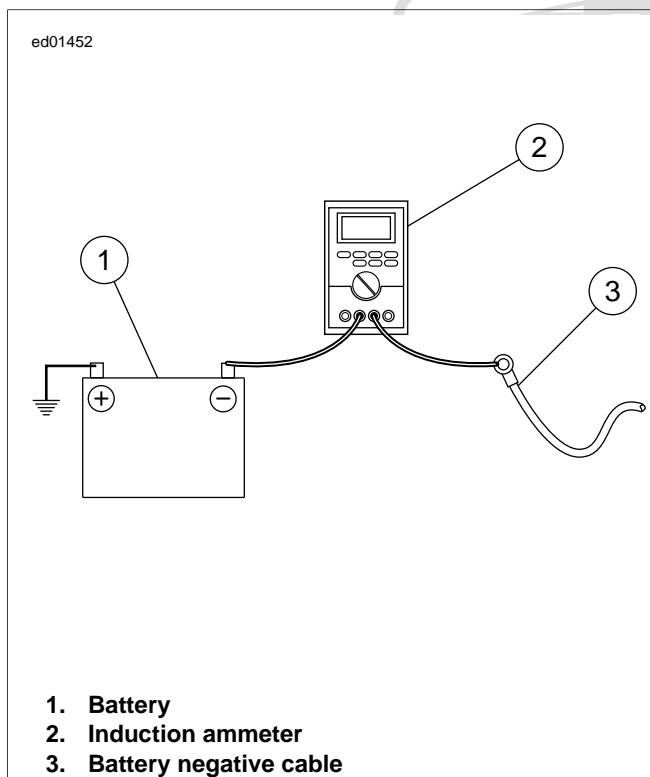

Figure 1-20. Milliampere Draw Test (Ignition turned to OFF)
1. See Figure 1-20. Connect ammeter between negative battery terminal and battery. With this arrangement, you will also pick up any regulator drain.